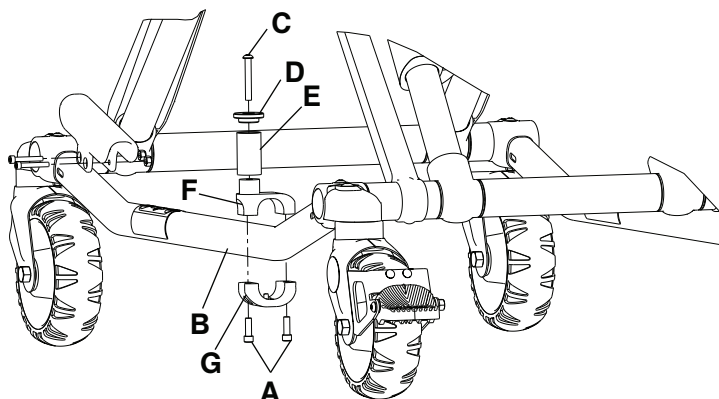

Figure 6 – Cot retaining post replacement
3. Using a T30 Torx driver, remove the two socket head cap screws (A) that secure the cot retaining post to the base tube (B) (Figure 6). Discard the screws and cot retaining post.
4. Insert the button head cap screw (C) through the retaining post cap (D) and post tube (E), and then into the top pin bracket (F) (Figure 6).
5. Using a 5/32" hex wrench, tighten the button head cap screw (C) to secure the retaining post cap (D) and post tube (E) to the top pin bracket (F) (Figure 6). Using a torque wrench, torque the screw to 100-140 in-lb.
6. Assemble the cot retaining post across the base tube. Align the holes of the brackets and insert two socket head cap screws (A) into the threaded holes of the bottom pin bracket (G) (Figure 6).